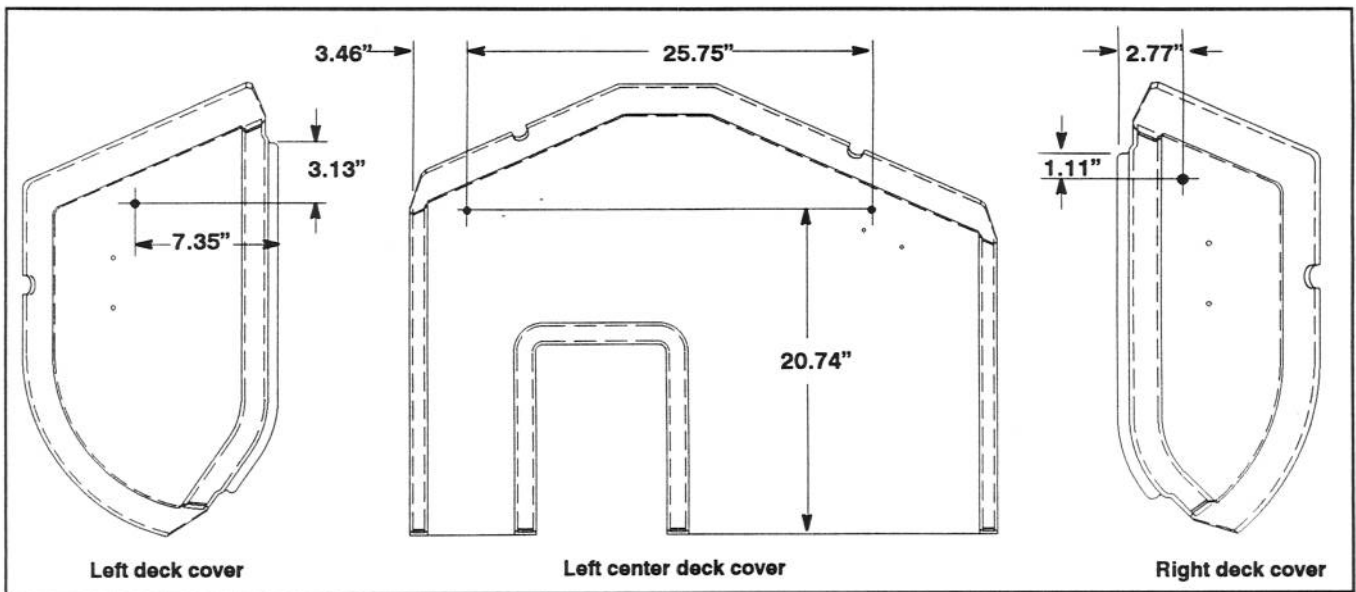

Figure 4
2. Using dimensions shown in figure 4, locate, mark and drill a .438" dia. hole in each outer deck cover and (2) holes in center cover.
5. Remove deck covers and drill (4) .531" dia. holes at locations marked.